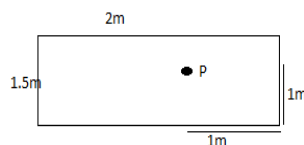

fig 5
22. A rectangular foundation 2m * 1.5m carries a uniform load of 40 KN/m². Determine the vertical stress at P which is 3m below the ground surface as shown in **fig5**. Use equivalent point load method.